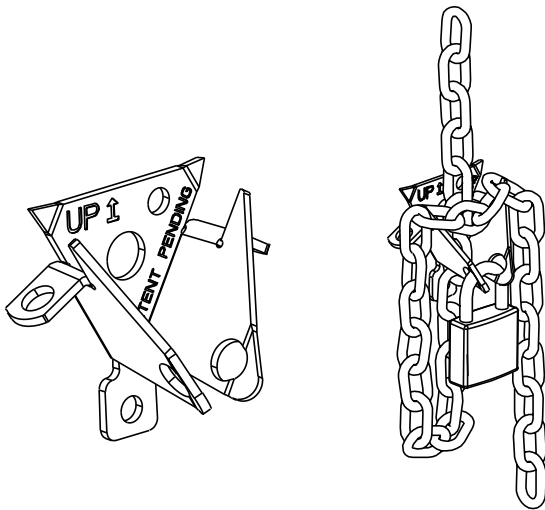

FIG. 3
5. Loop chain around keeper as shown. FIG. 3. Optional Padlock not provided.